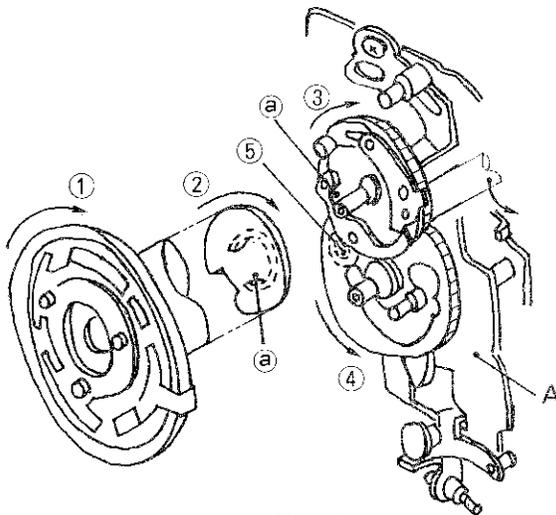
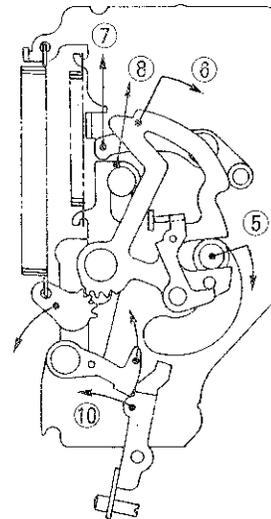

Fig. 5
Fig. 6 (Rear A)
1. Cam part (a) is coupled to (3) clutch part (a), rotating (3), (4) and (5). (See Fig. 5) Then, pin (5) coupled direct to (4) rotates M charge cam (6) in the arrow direction (Fig. 6), whereby the tip pushes (7) up, and (8) operates by means of (c) spring action accordingly, then (9) is unlocked, and the force of charge spring (d) coupled direct to (6) is divided into (b) and (e) (Fig. 7), while M release lever (10) receives it for setting.
2. The release is actuated in the arrow direction after M release lever (10) and S release lever (f) (within the shutter mechanism unit) receive information from the moving coil.